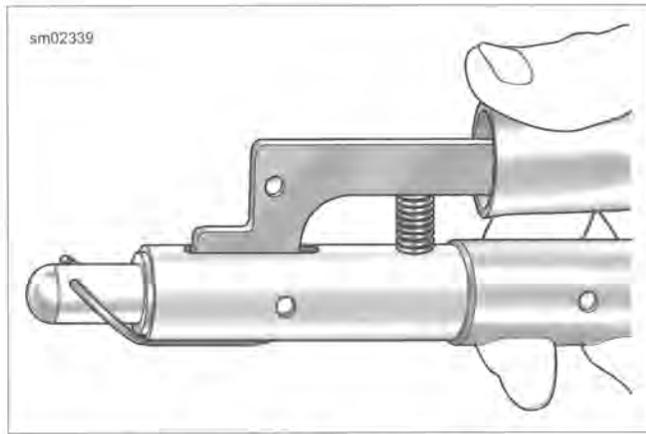

Figure 3-67. Aligning Circlip
- a. See Figure 3-67. Slide circlip down nose of tool until it contacts claw. Lightly squeeze handles of tool to capture circlip in claw.